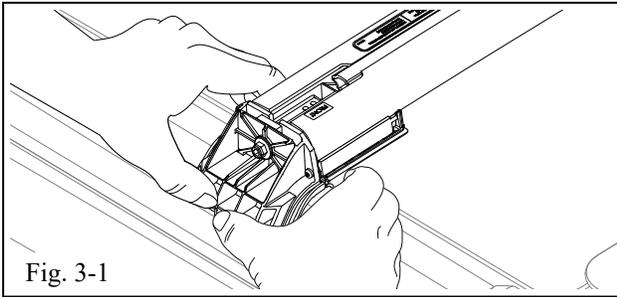

Fig. 3-1
- (a) Push the stanchion against the rail. Then pull the clamp against the rail making sure the pins align and are inserted into the rail. (Fig. 3-1).